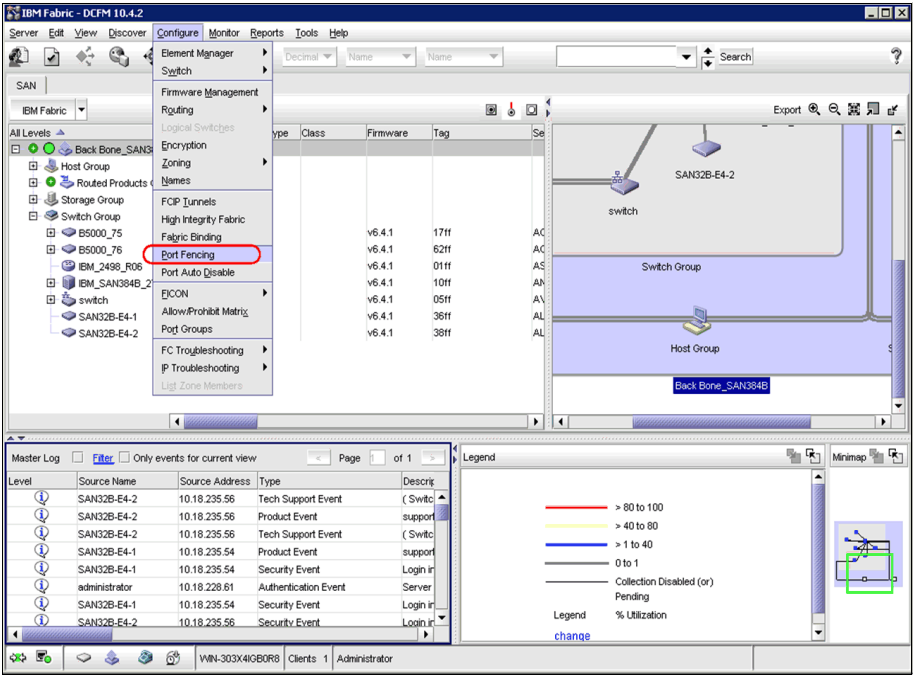

Figure 17-36 Select Port Fencing
1. Select **Configure** → **Port Fencing** as shown in Figure 17-36. The Port Fencing dialog box displays.
1. Select **Configure** → **Port Fencing**. See Figure 17-36 on page 822. The Port Fencing dialog box displays.
- Select **Configure** → **Port Fencing** (see Figure 17-36 on page 822). The Port Fencing dialog box displays.